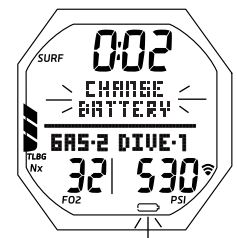

Fig. 2 - LOW BATT ALARM
- Upon entry into Surface Mode, the Battery icon (shell only with no inner bar) and graphic CHANGE BATTERY flash for 5 seconds (Fig. 2) and operation reverts to Watch Time with Compass (view only) allowed, until the Battery is changed or voltage cannot sustain operation, then the graphic CHANGE BATTERY flashes until the Battery is changed or voltage drops to the level at which operation cannot be maintained.